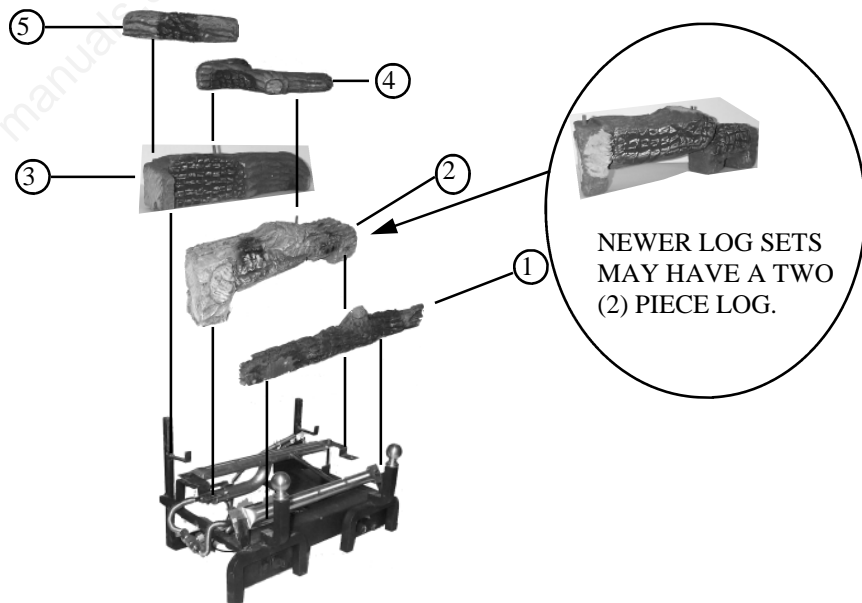

Figure 3
**LOG PLACEMENT FOR MODEL 24 (FIBER) LOG SETS** (See Figure 3.)